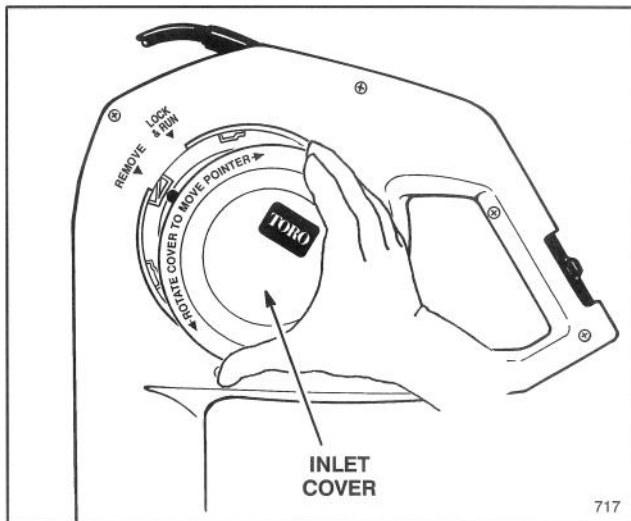

Figure 5
3. Remove inlet cover (Fig. 5).